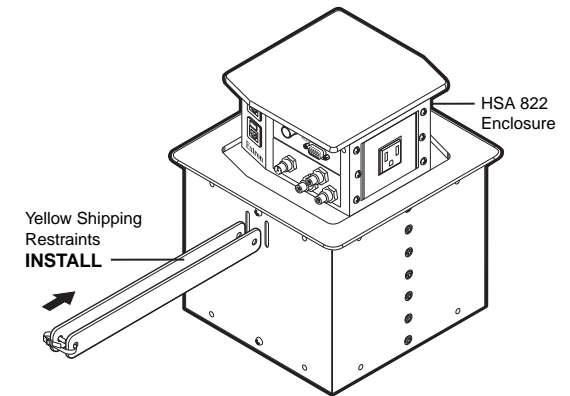

Figure B-2 — Installing the shipping restraints
3. With the platform fully extended, insert the yellow shipping restraints through the slotted holes in one side of the enclosure's shroud (figure B-2) and out the holes in the opposite side. Use the included tie-wraps to secure the shipping restraints in place.